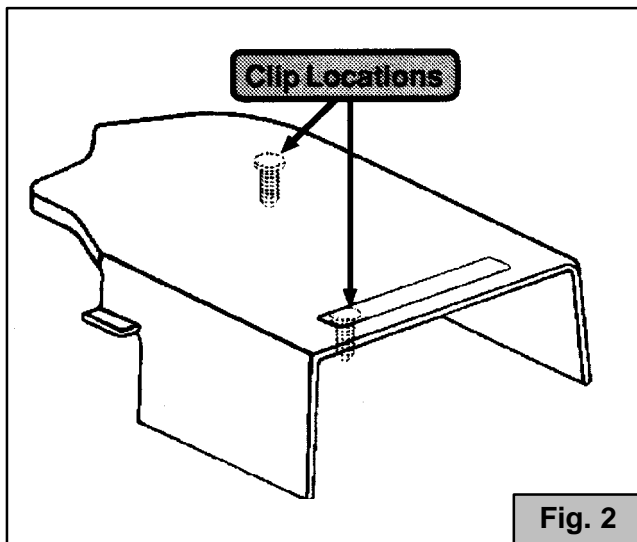

Fig. 2
3. Make sure that the clips are on correctly so the cover will stay in place (Figure 2).